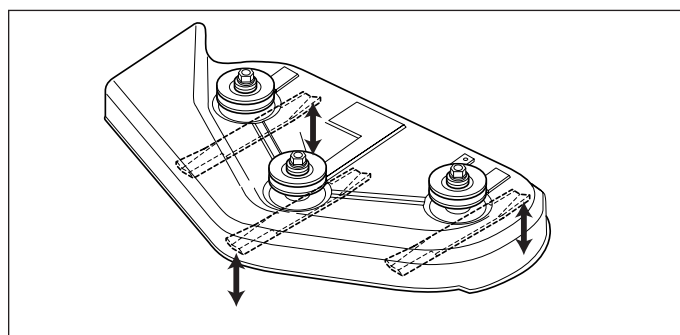

Figure 30. Orient Blades Front-to-Back
6. Arrange the blades so they face front-to-back (Figure 30).